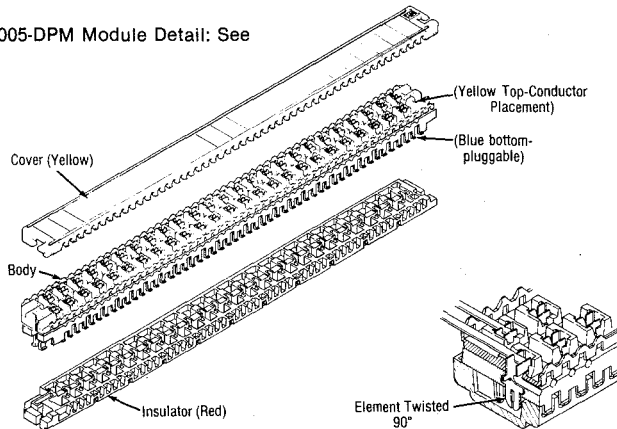

Fig. 1—Super Mate 4005 DPM Module Detail.
- a. Super Mate 4005-DPM Module Detail: See Figure 1.